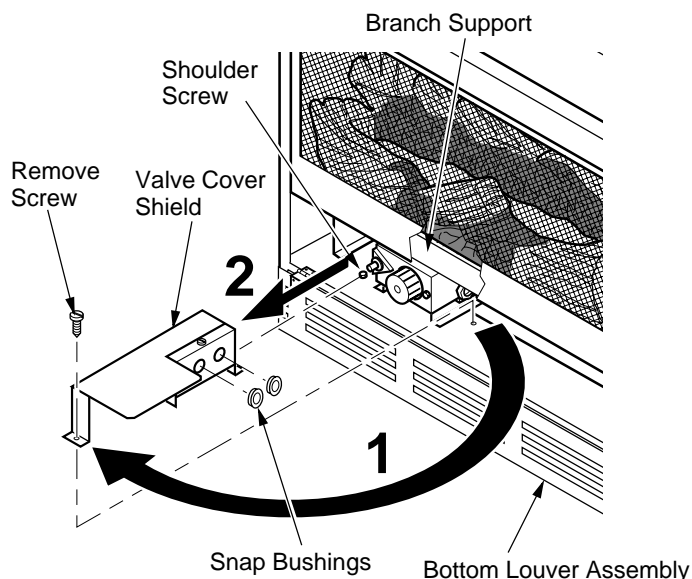

Figure 22 - Removing Valve Cover Shield
1. Open bottom louver assembly by swinging the assembly down (see Figure 22).
IMPORTANT: Do not remove shoulder screw on the left side of valve cover shield. Slide the valve cover shield off of the shoulder screw (see Figure 22).